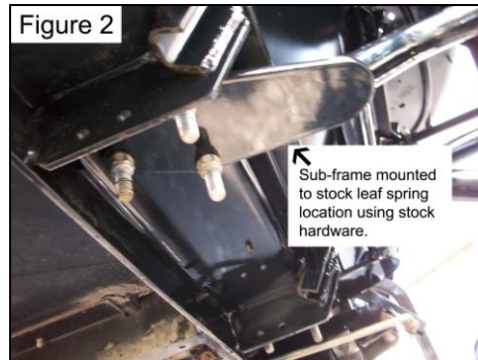

Figure 3
6. Line Jake's top frame support holes up with the outside holes on the frame. Using Jakes top frame support (ITEM B) as a guide, mark frame using the middle hole as a guide. Drill a 3/8" hole in the frame as shown in Figure 3 and drill the remaining 2 holes to 3/8".